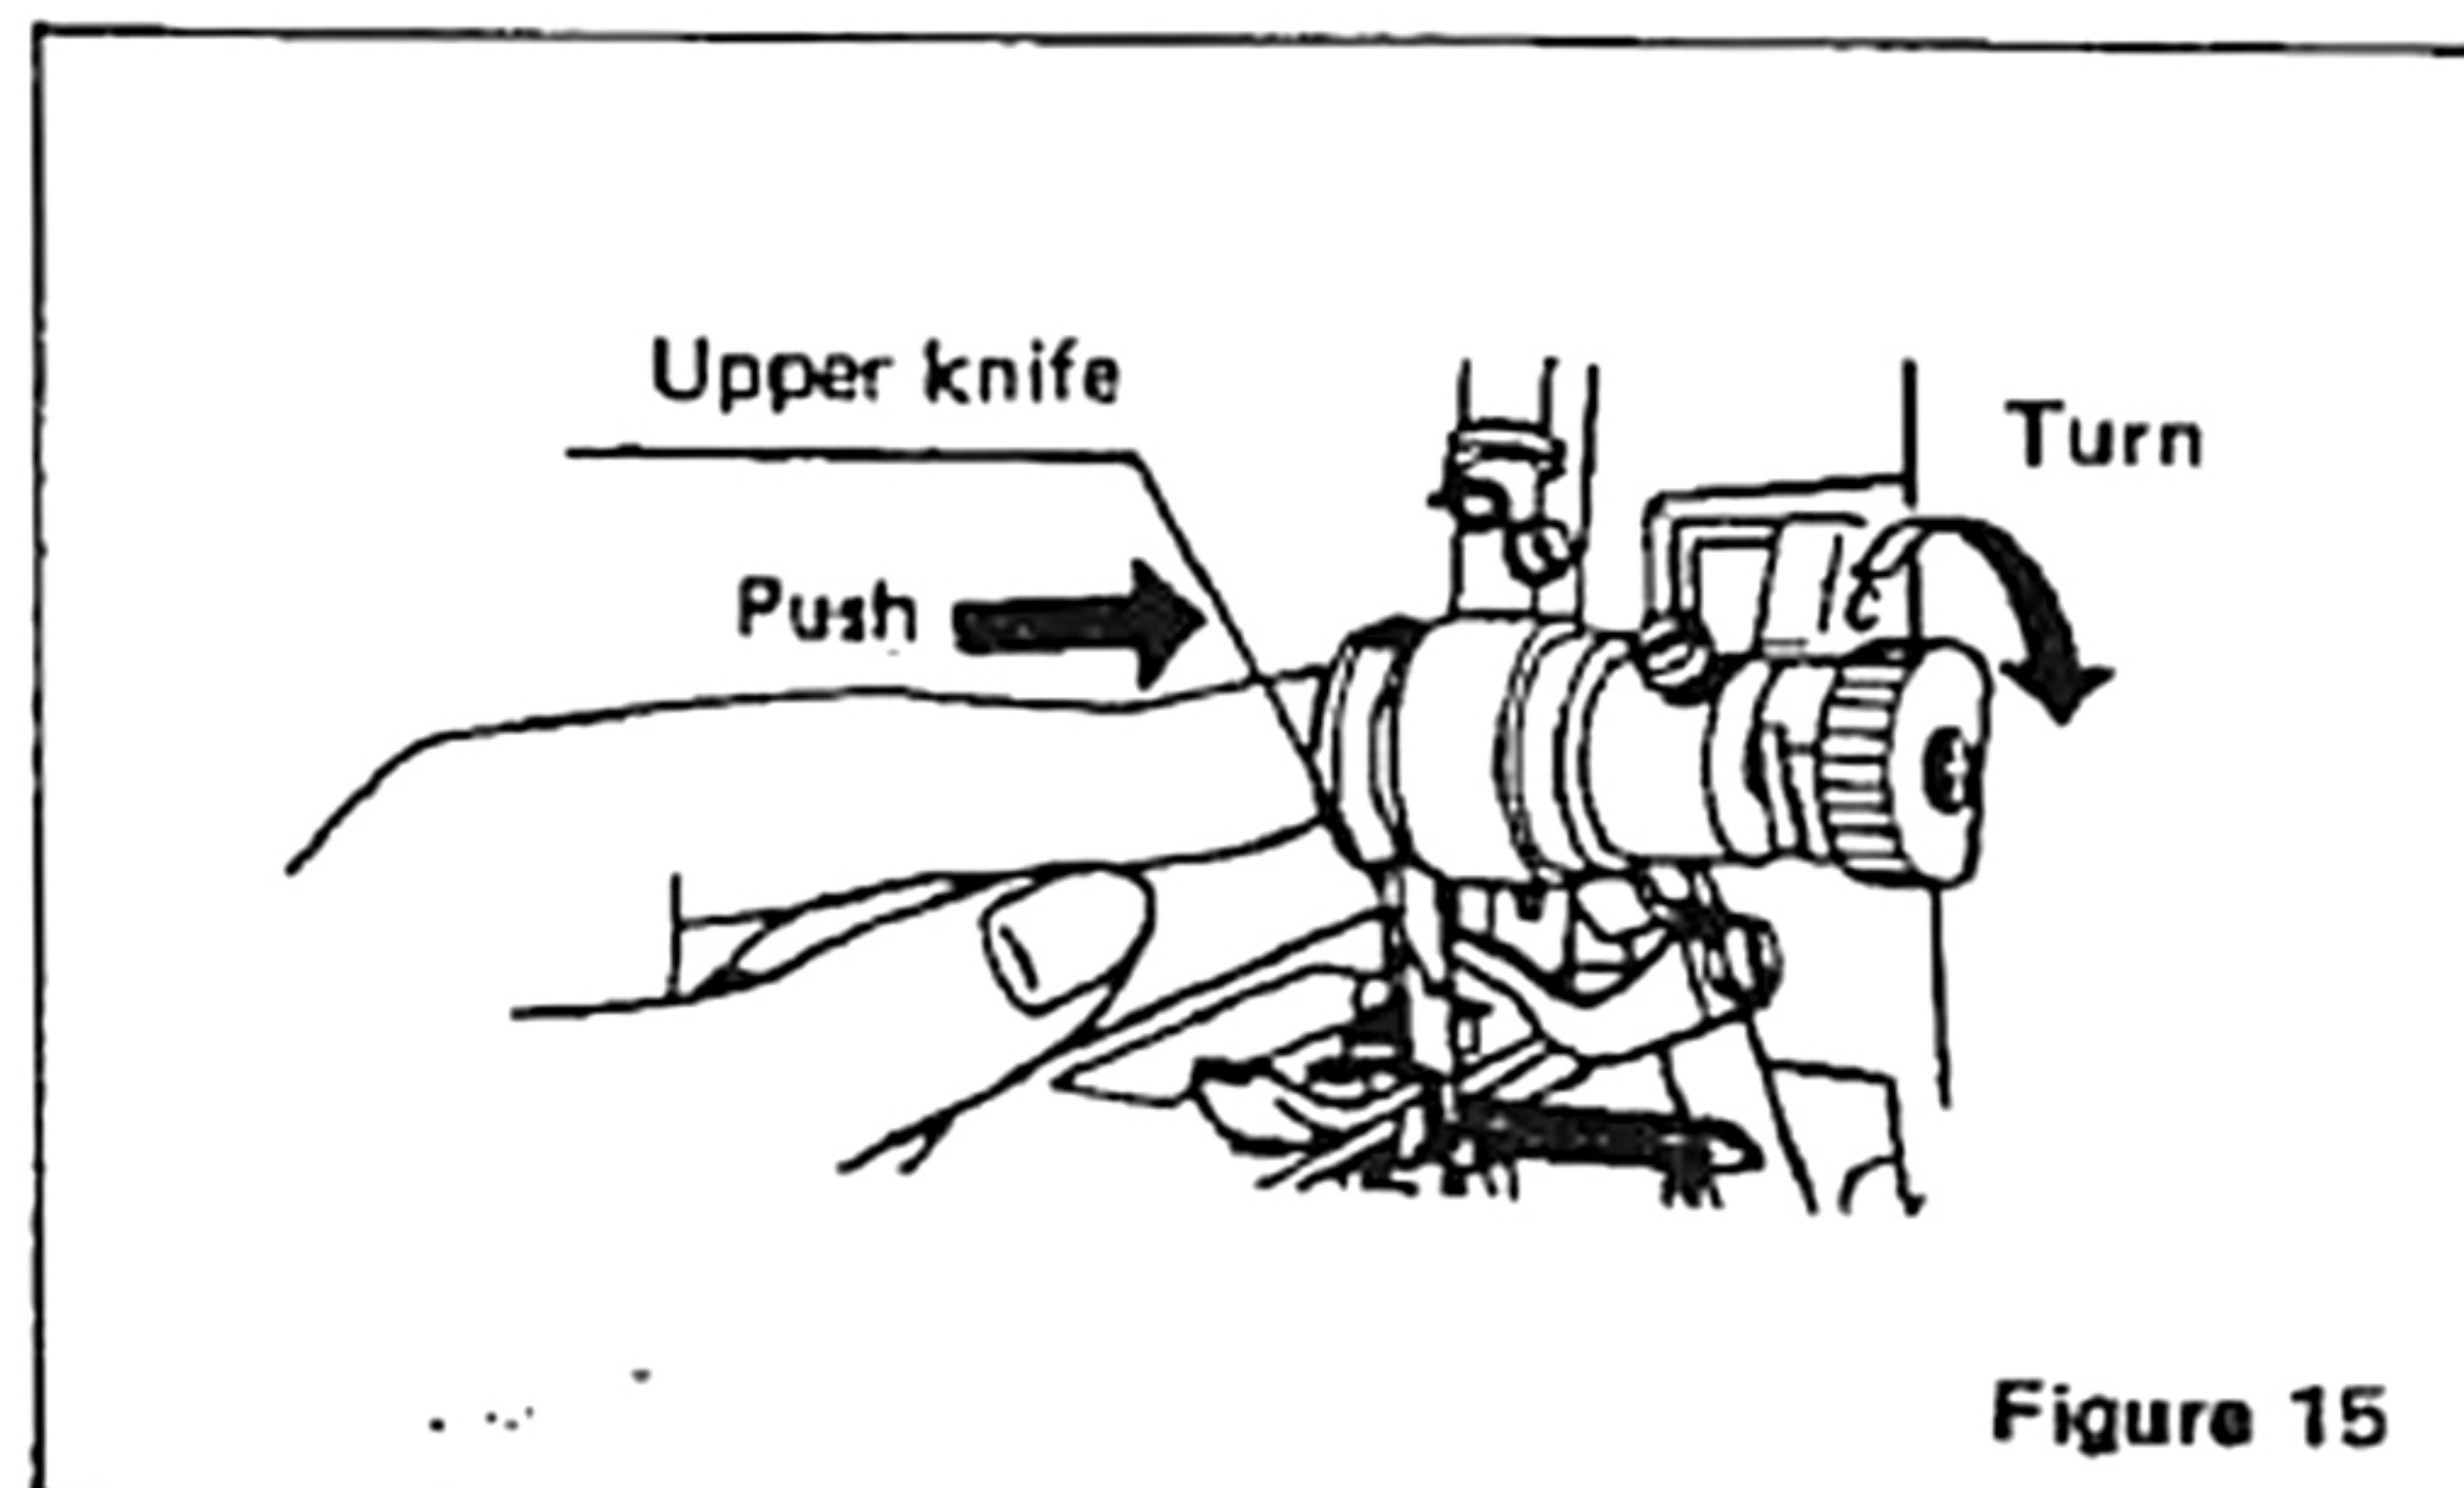

Figure 15
2. Push the upper knife holder to the right and turn the knife to the "up" position (Figure 15).